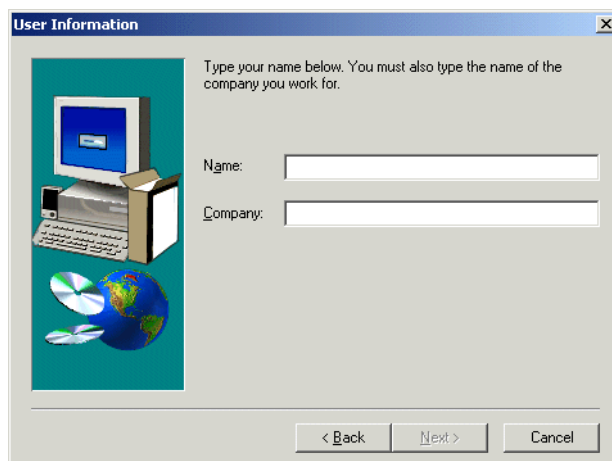

Figure 9-10 SDD installation - user information
5. The Software Licensing Agreement panel is displayed. If you accept the terms and conditions of product license, click **Yes**. The user information panel shown in Figure 9-10 is displayed. Type your name and your company name and click **Next**. You will not be able to proceed to the next window without entering the requested information.